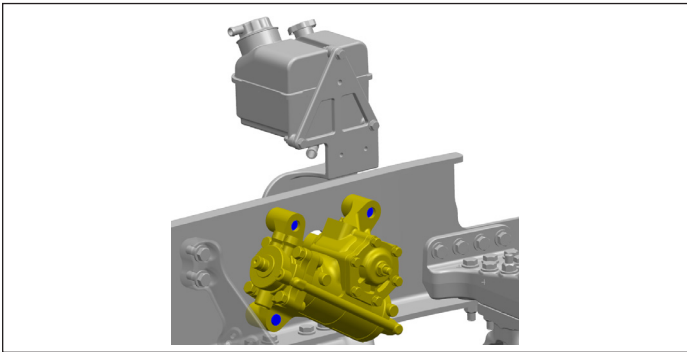

Figure 7 - Set-Forward Axle Type
13. On vehicles with set-forward axle types, the steering gear is assembled inside the frame rail. See *Figure 7*. The pitman arm needs to be disassembled before removing the gear from the frame rail. Refer to the section titled *Removing the Pitman Arm* to disassemble the pitman arm.
1. The pitman arm on set-forward axle vehicles (See Figure 7) should only be assembled after the steering gear is installed on the frame rail.